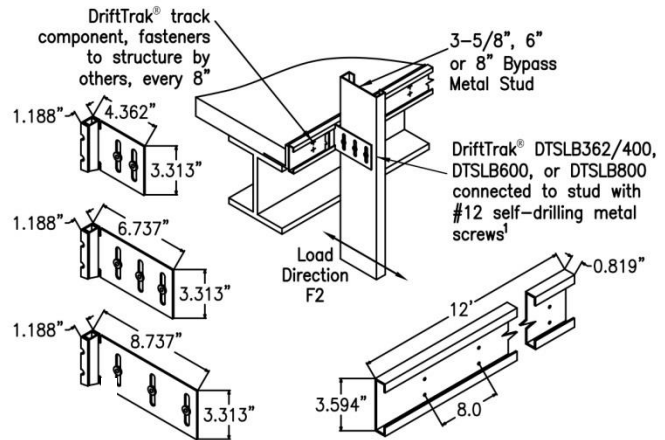

Figure 9 – DriftTrak® DTSLB362/400, DTSLB600 and DTSLB800
3.3.5 DriftTrak® DTSLB: DriftTrak® DTSLB362/400, 600 and 800 are L-shaped angle and track combinations that connect 3⁵/₈ or 4, 6 and 8 inch deep (92 or 102, 152, and 203 mm) exterior curtain wall steel studs, respectively, to a concrete floor slab's pour-stop angle while allowing a maximum of 2 inches (51 mm) of vertical movement, and free horizontal movement between exterior wall elements and the primary structure. The minimum base-metal thickness of the clip is 0.0677 inch (1.7 mm), and the minimum base-metal thickness of the track is 0.0966 inch (2.5 mm). The long leg of the DriftTrak DTSLB connector, which is fastened to the curtain wall stud, has two or three vertical slots, each 3/8 inch (9.5 mm) wide by 2³/₈ inches (60 mm) long and has bushings designed for #12 self-drilling/self-tapping steel screws installed in the centers of the slots. Refer to Figure 9 for overall dimensions of each DriftTrak DTSLB connector and a typical installation detail.